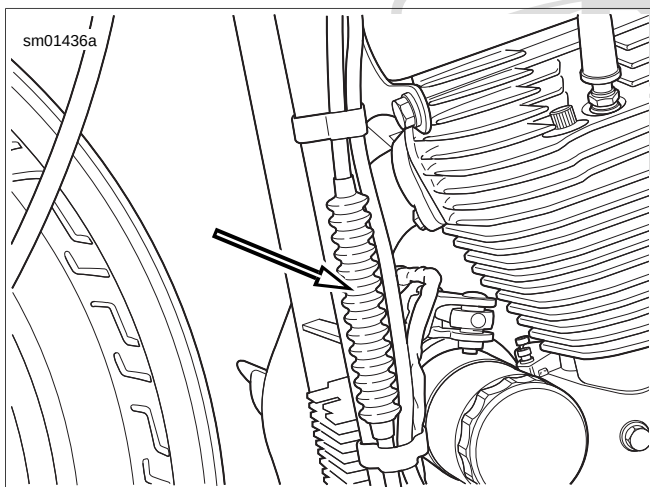

Figure 1-24. Clutch Cable Adjuster Location: XL Models
2. **XL Models:** See Figure 1-24. Remove cable adjuster from the frame retaining clips.